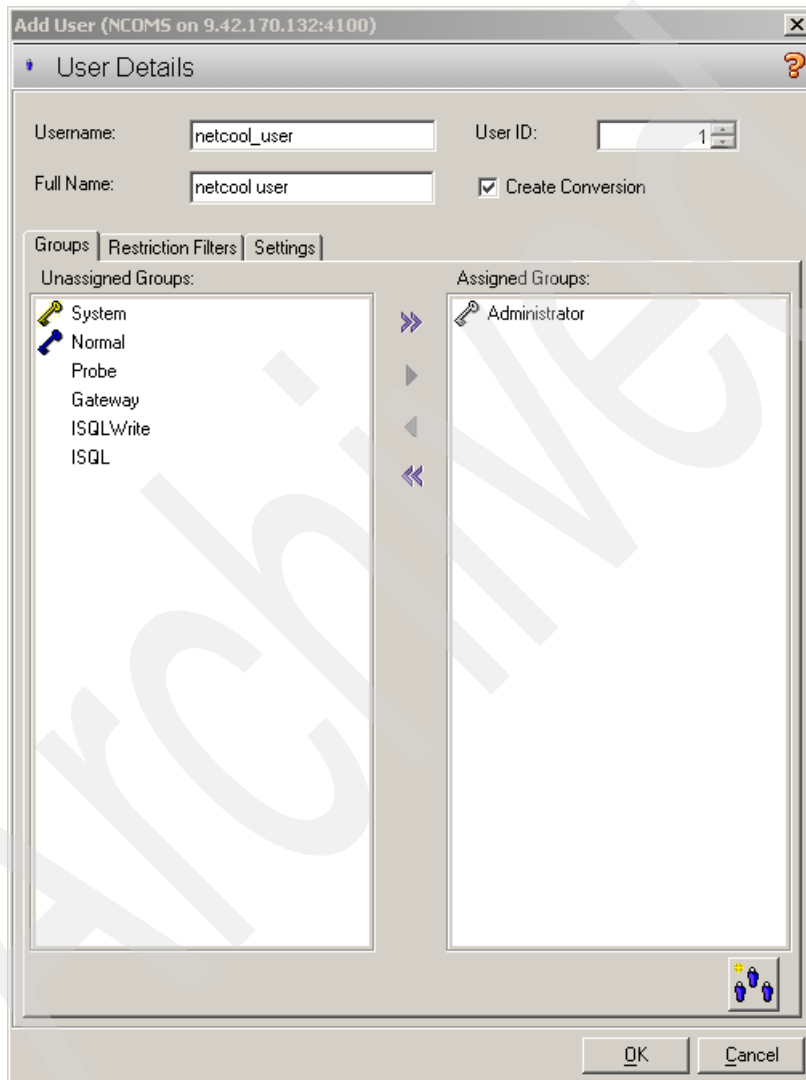

Figure 4-22 IBM Tivoli Netcool/OMNIBus Administrator Add User
2. Click the Add User icon () in the toolbar. The Add User window opens, as shown in Figure 4-22. Be sure to: